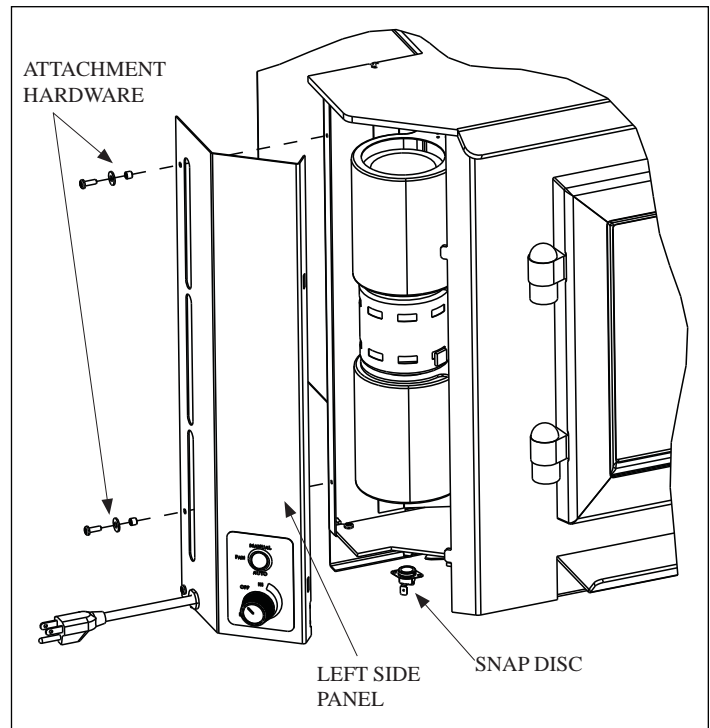

Figure 21.1 Snap Disc Location
2. Using a phillips head screwdriver, remove 8-32 screw, washer and bushing assemblies holding left side panel in place. Remove panel. **Figure 21.1**
2. Using a phillips head screwdriver, remove 8-32 screw, washer and bushing assemblies holding left side panel in place. Remove panel. **Figure 21.1 on page 21**